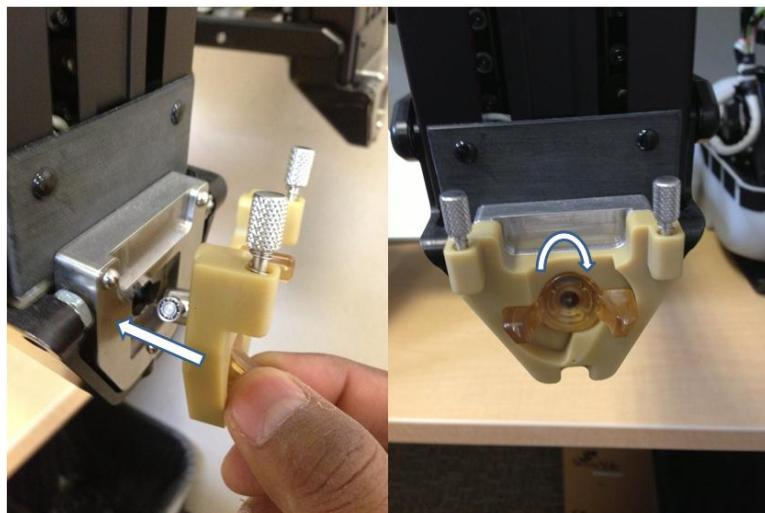

FIGURE 28: INSTALLING CANNULA HOLDER.
2. Once inside, twist the lock clockwise by 90 degrees to securely lock the cannula holder onto the PSM Arm as shown in Figure 28.